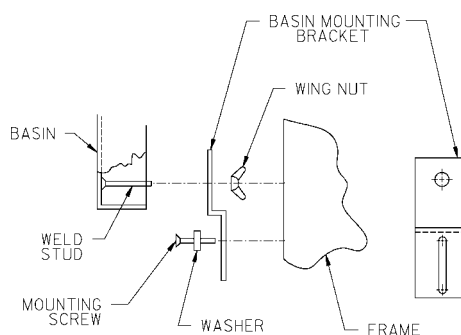

FIG. 4
4. Attach basin mounting brackets to basin studs located in the lower corner with two (2) provided wing nuts (See Fig. 4). Tighten securely.